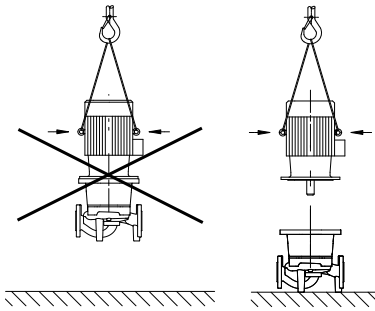

Fig. 15: Transporting the motor
- **Only use lifting eyes on the motor for carrying the weight of the motor and not for carrying the entire pump (Fig. 15).**